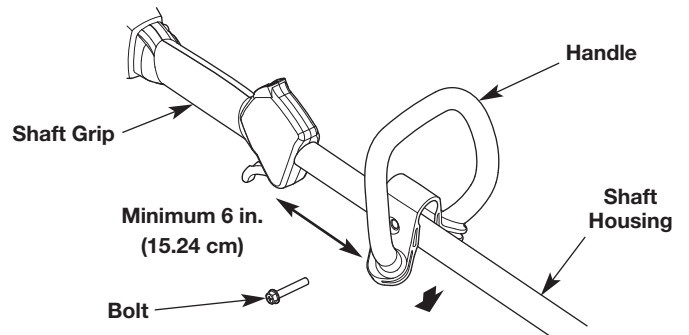

Fig. 2
1. Push the handle down onto the shaft housing (Fig. 2). The bolt hole in the handle should be to the right.
2. Insert the bolt into the bolt hole and push it through (Fig. 2). Tighten the bolt with a 3/8" socket, but do not tighten the bolt completely.
3. While holding the unit in the operating position (Fig. 10), move the handle to the location that provides the best grip. Place it a minimum of 6 inches (15.24 cm) from the end of the shaft grip (Fig. 2).
1. Loosen the bolt with a 3/8" socket (Fig. 2).
2. While holding the unit in the operating position (Fig. 10), move the handle to the location that provides the best grip. Place it a minimum of 6 inches (15.24 cm) from the end of the shaft grip (Fig. 2).